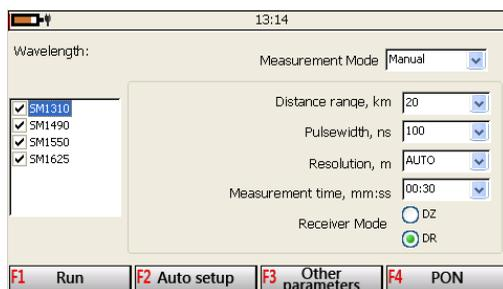

Figure 7.5
For this purpose, press the button [F2 Setup] of the main menu – the window shown in Figure 7.5 is then activated.
7.3.1.2 The measuring parameters indicated in the window of Figure 7.5 are designed for:
7.4.1 If you press the [Run] button, the KI 6700 starts measuring according to the parameters previously entered in the Setup window (see Figure 7.5).